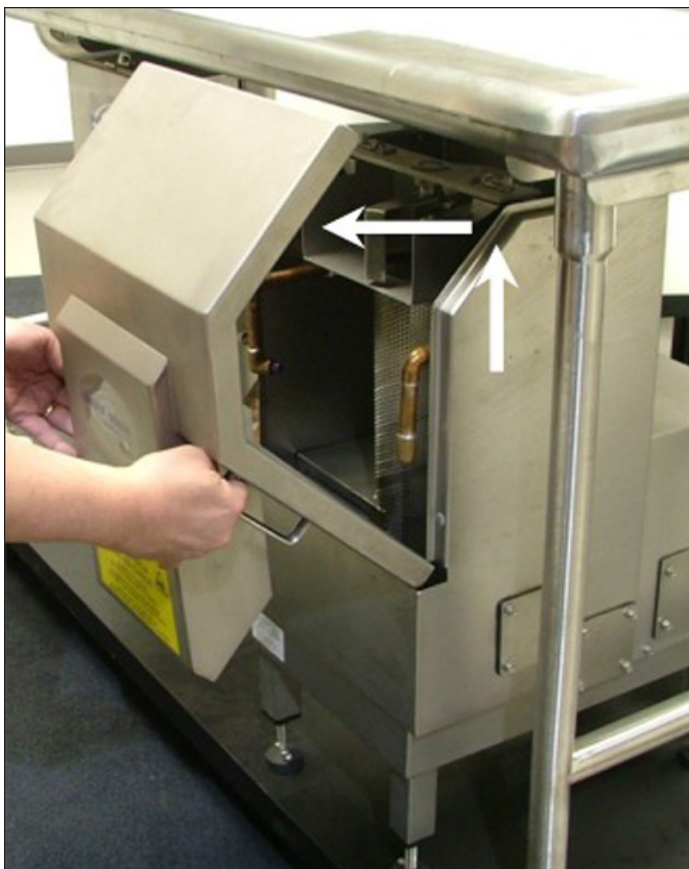

Figure 16. Discharge Chute
2. Holding both handles, remove discharge chute by tilting forward and lifting upward simultaneously (Figure 16).
9. Install discharge chute (Figure 16). Check position to ensure chute is positioned and seated correctly.